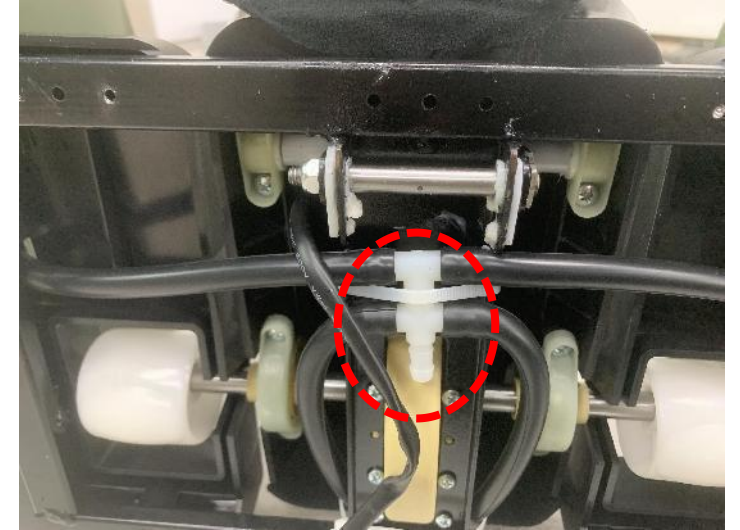

Figure 3
3. Separate trachea (Figure 3)
4.13. Removal of kneading assembly and kneading motor (4)